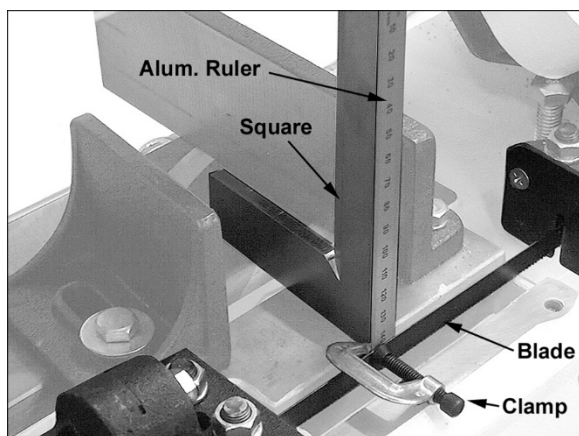

Figure 8-14: Table/Blade Squareness
- 1) "Extend" the blade surface by clamping a straight, flat object to blade. (Figure 8-14 uses small, lightweight aluminum ruler.) Use lightweight clamp.